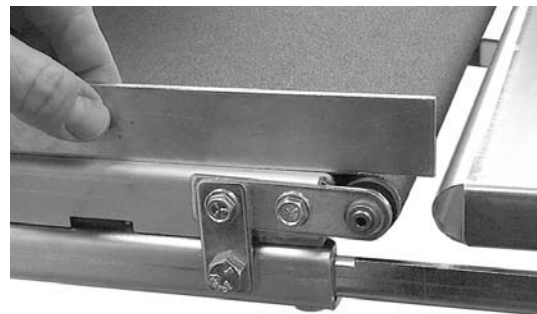

Figure 27
Step 1: Check the conveyor drive roller and the driven roller to make sure they are parallel to the surface of the conveyor bed. To do this, first center the conveyor belt on the bed. Then lay a straight-edge on the exposed edge of the conveyor bed on the left (outboard) side, extending it over the roller. See Figure 27. Note the distance between the roller and the straightedge.